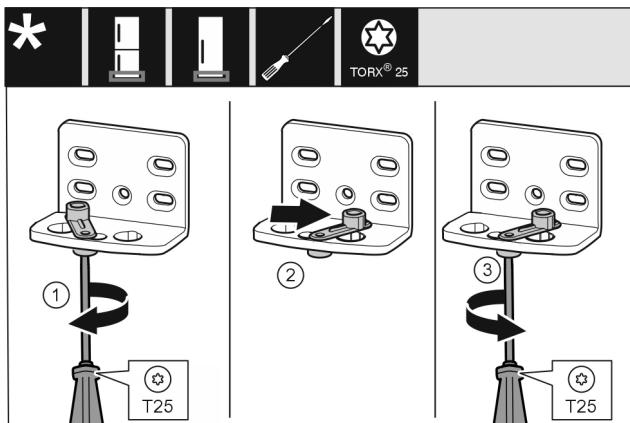

Fig. 16
- Loosen the screw Fig. 16 (1) with the screwdriver.
- Lift the door closing mechanism Fig. 16 (2) and turn it 90° to the right into the hole.
- Tighten the screw Fig. 16 (3) with the screwdriver.